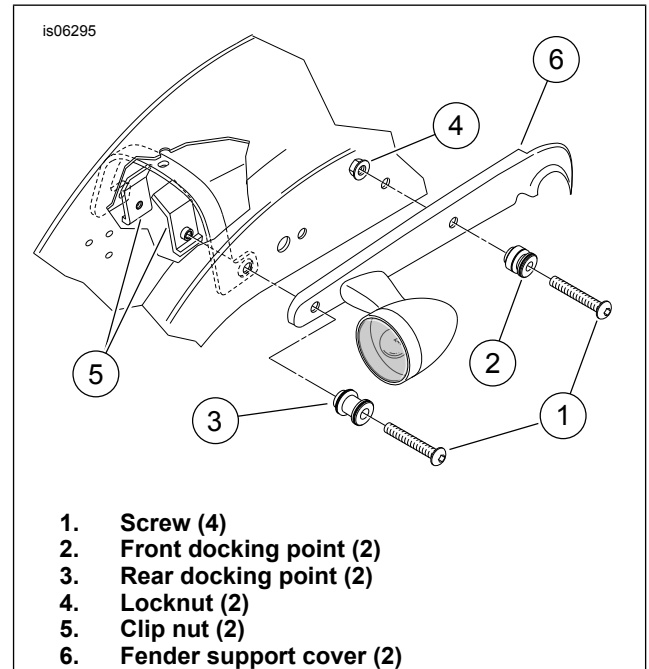

Figure 1. Rear Fender Support
1. See Figure 1. Remove the front screw (1) and locknut (4) from the rear-fender support cover (6). Discard the screw. Discard the stock locknut.
2. Remove the rear screw (1) and clip nut (5) from the rear fender support cover taking note of the orientation of the clip nut inside the fender supports. Discard the screw, but retain the clip nut.
3. Remove and relocate the rear turn-signals from the rear fender support covers (6) per instructions provided in the service manual and relocation kit.